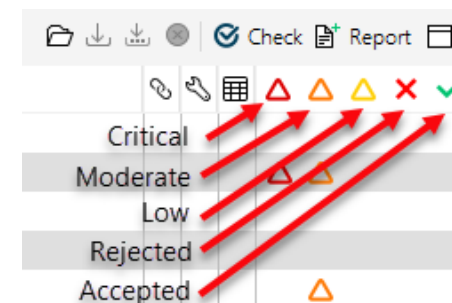

Figure 44: Filtering results
- (5) Filter results by focusing on **Critical** Issues (see Figure 44).